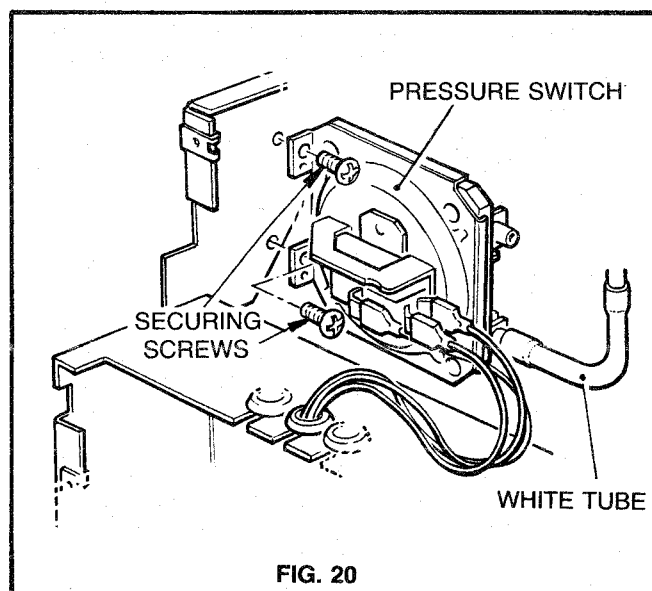

FIG. 20
8.1 TO REPLACE THE PRESSURE SWITCH (Fig. 20)